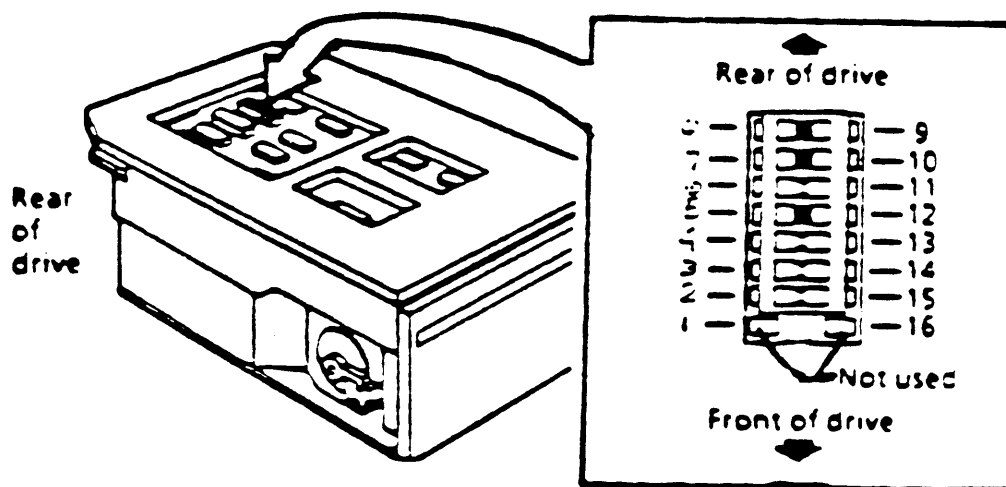

Figure 8-10 DIP Shunt Pack Setting
* Place the 14-pin DIP jumper pack in the rear 14 receptacles of the 18-pin socket (Figure 8-10).